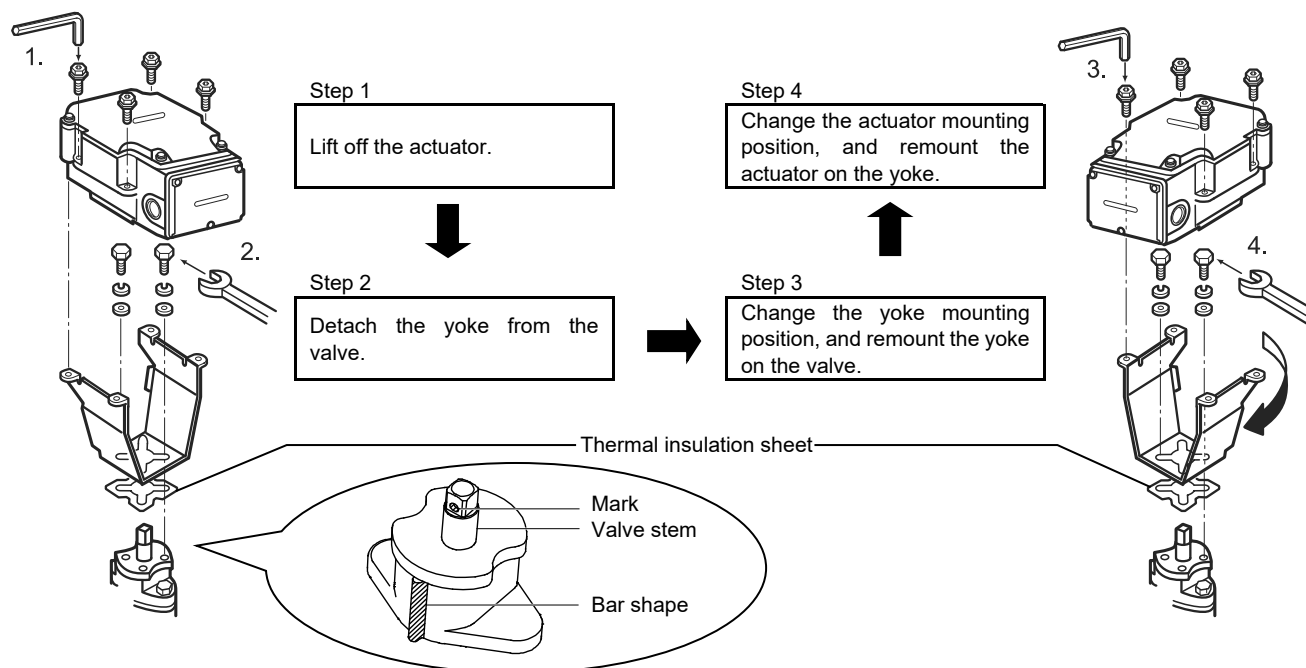

Figure 15. Changing the actuator mounting position
- 1) Remove the screws connecting the actuator and the yoke. Lift the actuator and detach it from the yoke. Make sure that the mark on the valve stem faces the same direction as the bar shape on the valve bonnet faces. <Step 1 in Fig. 15>
- 2) Remove the screws connecting the yoke and the valve. <Step 2 in Fig. 15>
- 5) Before fixing the yoke to the valve with the screws, check that the actuator engages correctly with the valve stem (at the new mounting position). Check that the pointer of the actuator indicates 100 % position as well. Then, fix the yoke to the valve. <Step 3 in Fig. 15>
- 6) Mount the actuator. Place the actuator, with its facing direction changed, on the yoke, and fix them with the screws. <Step 4 in Fig. 15>